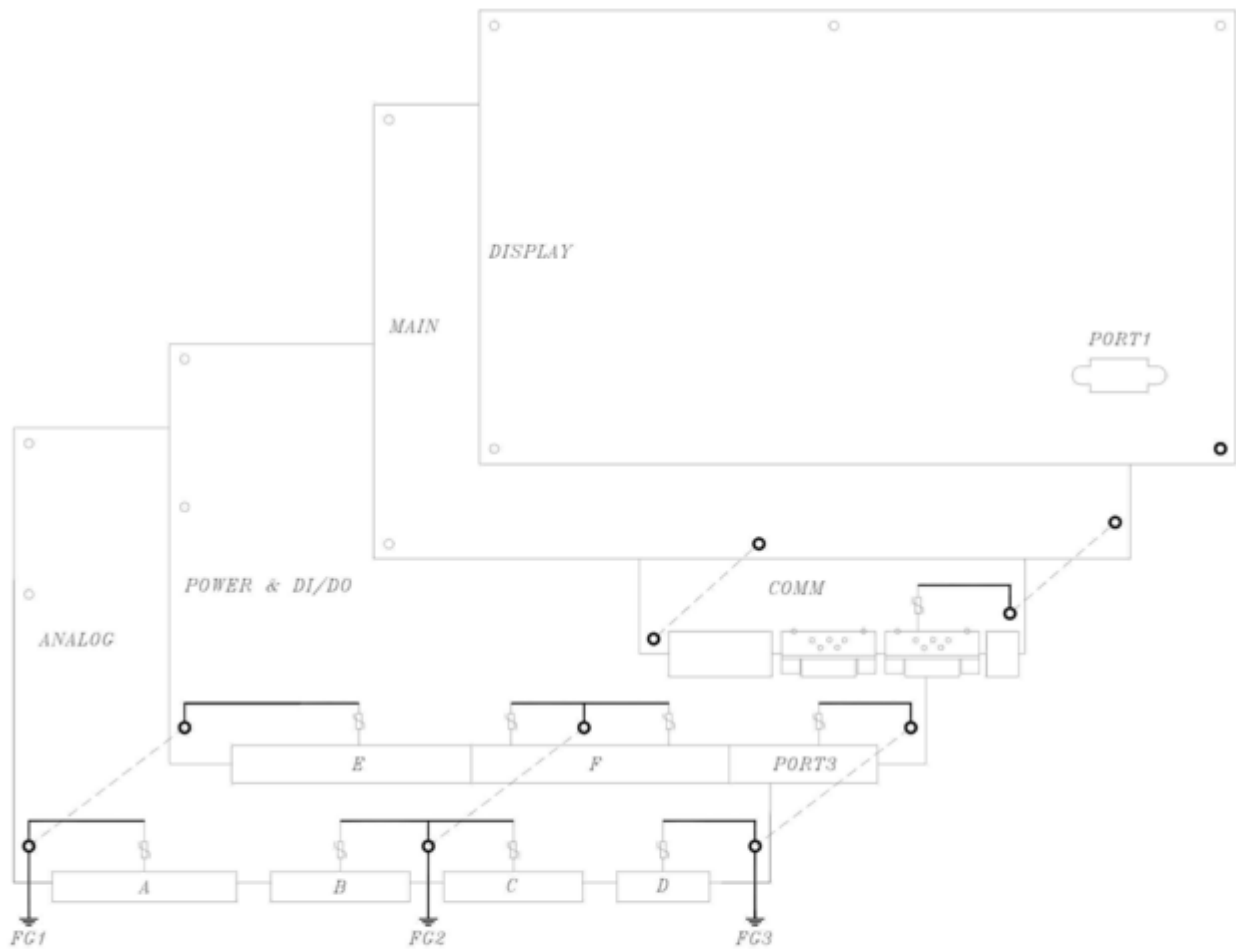

Figure 3-3. Board Ground
- **“Figure 3-3. Board Ground”** shows board ground of BKA101-N1 Module, FG1, FG2, and FG3.